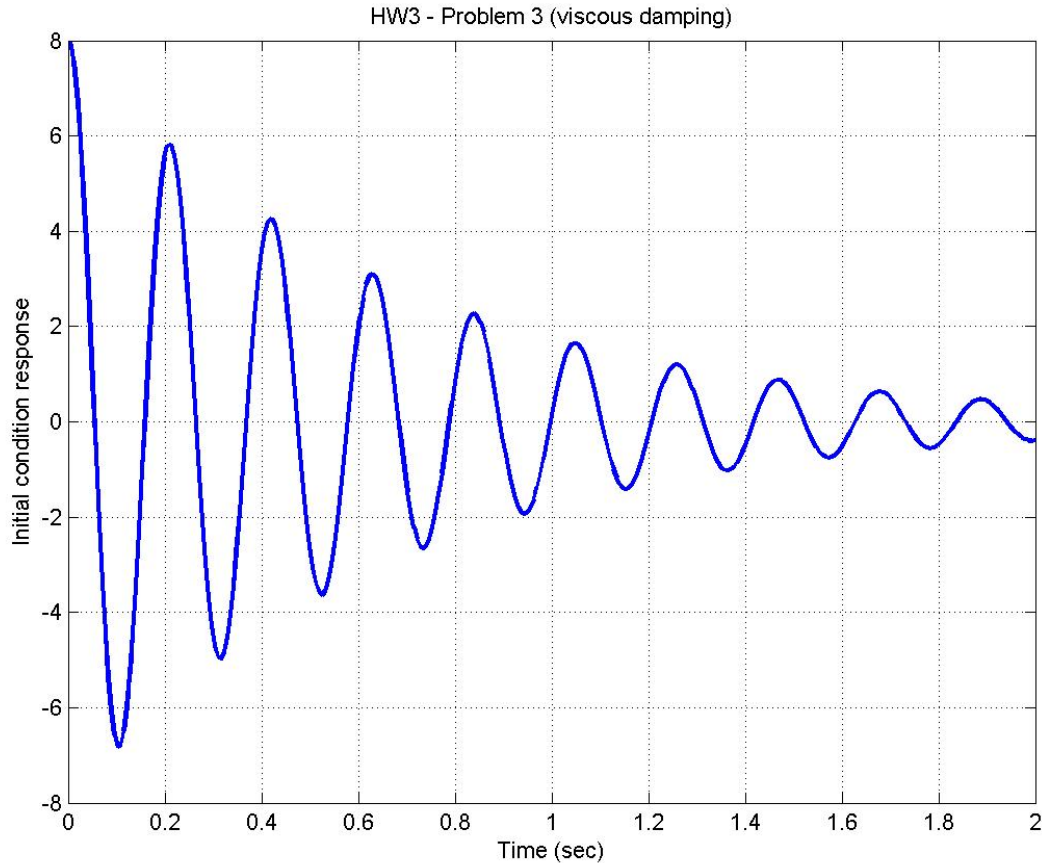

Figure 3.3a – Step response for a system with viscous damping.
a) Figure 3.3a shows the step response of a spring-mass system where  $m=1\text{kg}$  and  $k=900\text{ N/m}$ . The EOM is:  $m\ddot{x} + b\dot{x} + kx = 0$ , where losses are due to linear, viscous damping.
**ii) Using MATLAB, produce a plot of the approximate exponential decay envelope bounding the response in Figure 3.3a. For this system, what are: the time constant of the decay envelope,  $\omega_n$ , and  $\zeta$ ?**